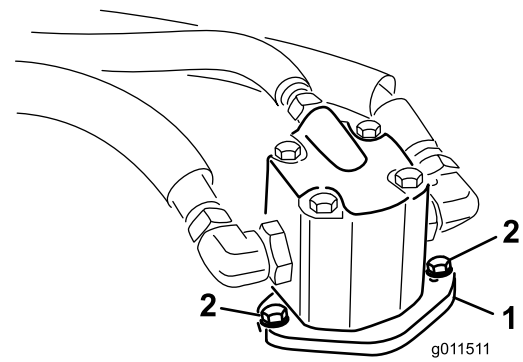

Figure 71
4. Remove the bolts securing the hydraulic motor to the mower deck (Figure 71).